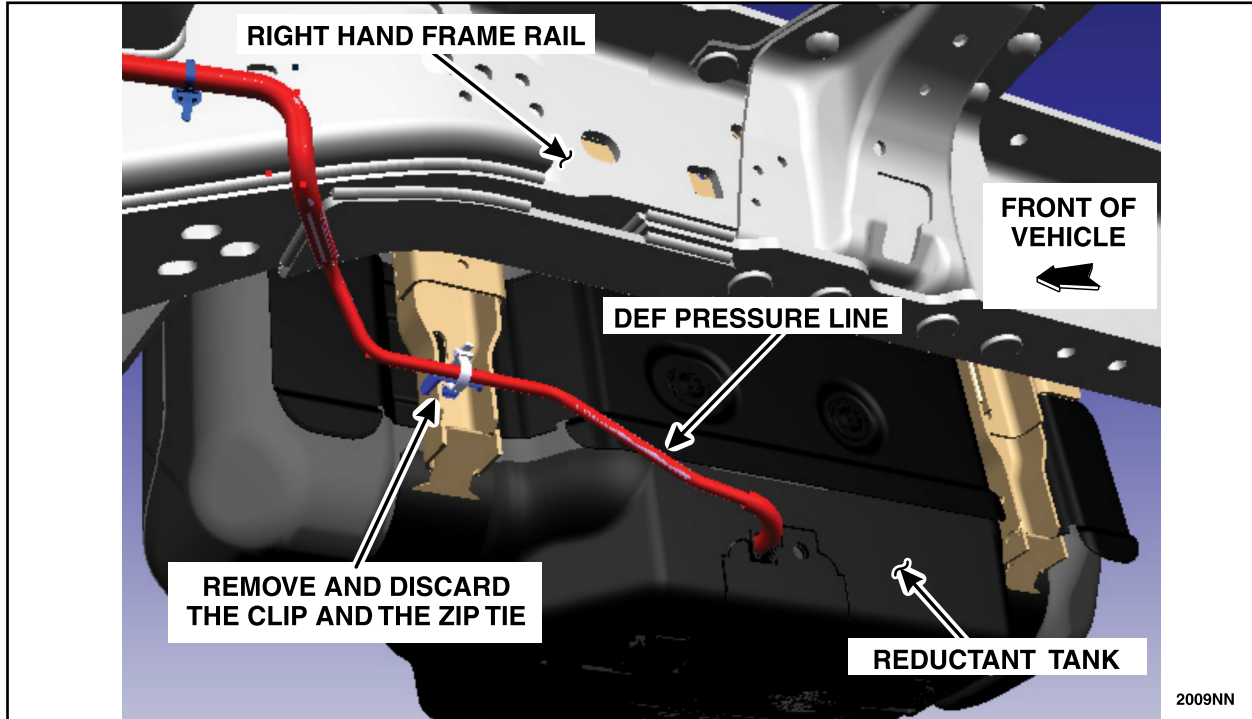

FIGURE 34
1. Remove and discard the clip and zip tie from the area shown in Figure 34.